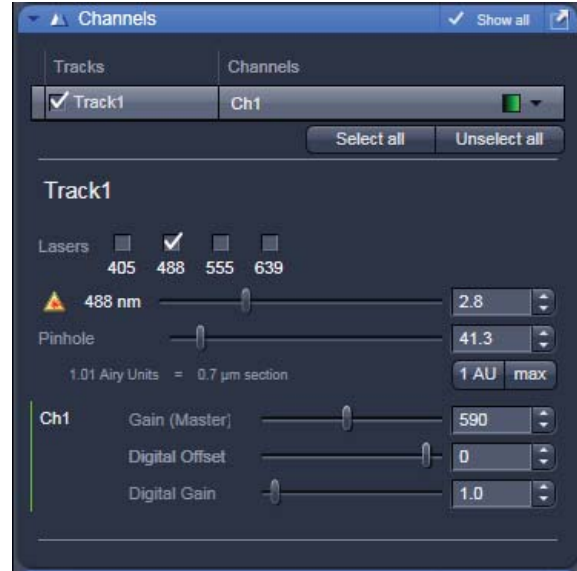

Fig. 4-125 Channels tool
- On the **Channels** tool in the LSM **Online Acquisition** tool group select the pinhole diameter so as to have the best possible image contrast (see Fig. 4-125).